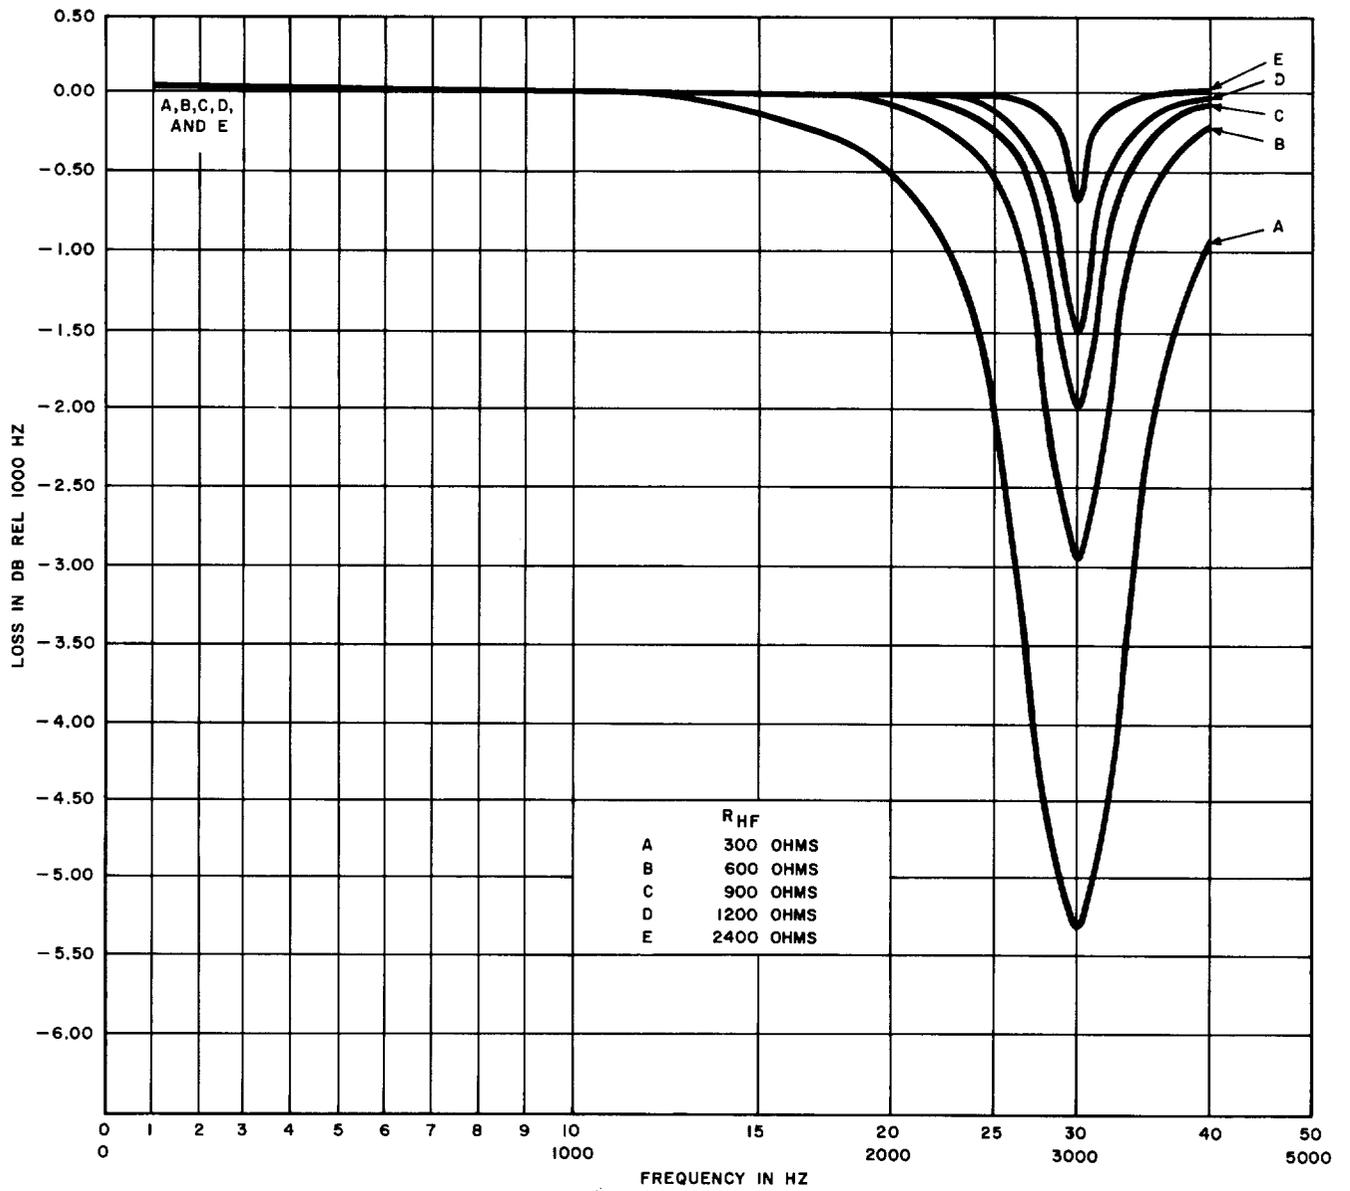

Fig. 6—359A Equalizer—High-Frequency Section Loss-Frequency Characteristics Between 600 Ohms—At Various Settings of R_{HF}
3.06 The shunt arm high-frequency components provide amplitude equalization for H88-loaded high-capacitance cable where the nominal cutoff is 3500 Hz. $C1$ and $L1$ form a parallel resonant circuit tuned to 3000 Hz and in series with the adjustable resistor R_{HF} . Varying resistor R_{HF} adjusts the amount of high-frequency equalization for various lengths and gauges of facilities. Fig. 6 illustrates the typical corrective losses which may be obtained by various settings of R_{HF} .